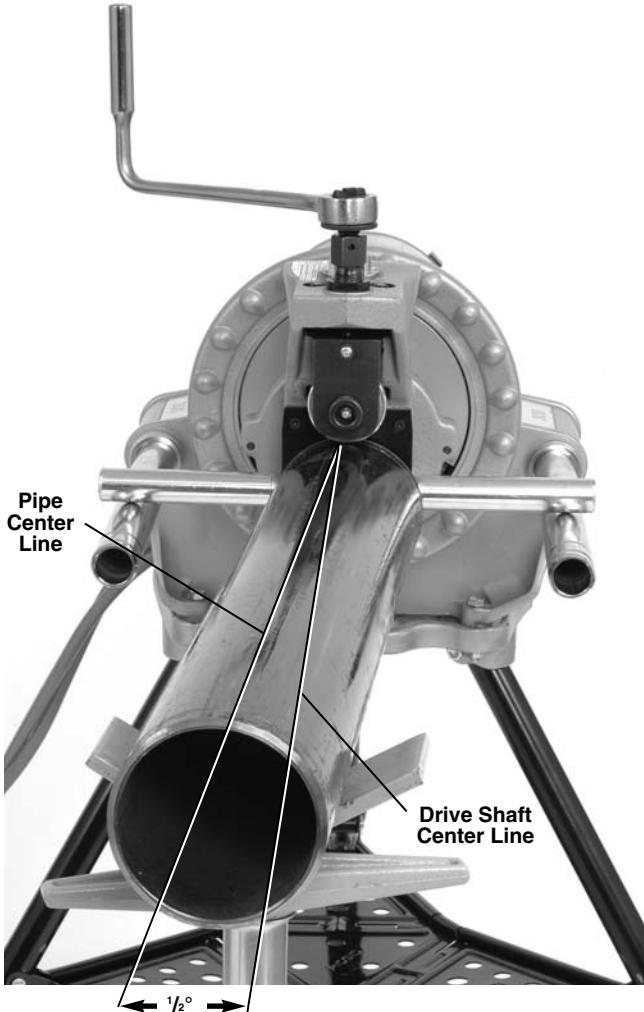

Figure 9 – Offsetting The Pipe $\frac{1}{2}^{\circ}$ Towards Operator (Exaggerated)
7. Slightly offset the pipe and pipe stands approximately $\frac{1}{2}$ degree (about 1" over at 10 feet from the roll groover) towards the operator. Proper alignment of the pipe and roll groover helps to insure proper tracking of the pipe while grooving. (See Figure 9.)
- Slightly increase the offset of the pipe towards the operator (increase from $\frac{1}{2}$ degree to 1 degree) (See Figure 9).